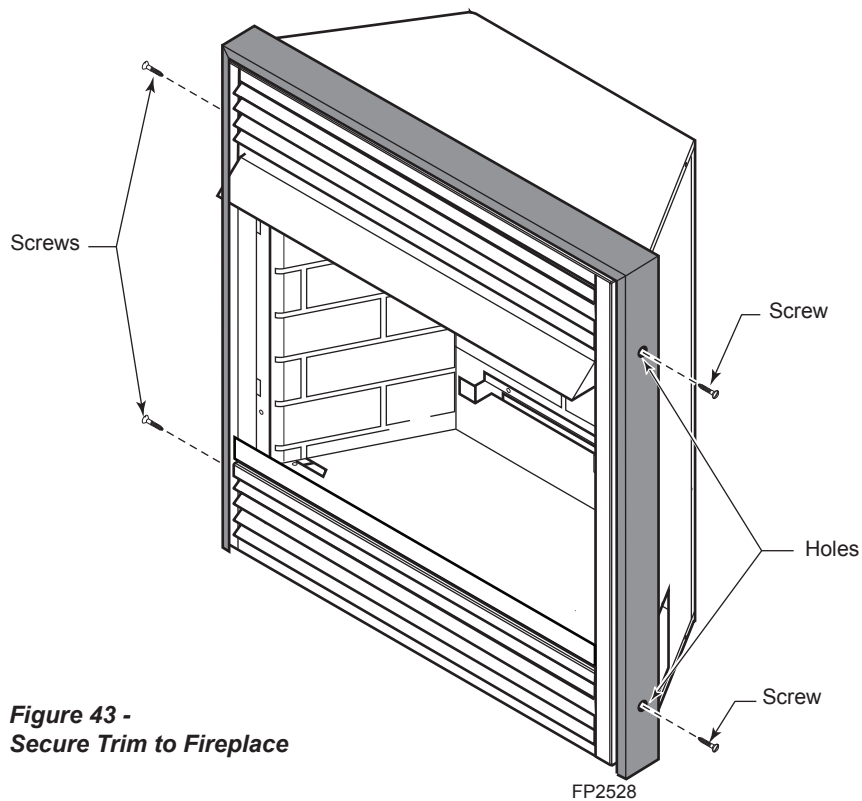

Figure 43 -
- Align holes in assembled trim with holes in side of fireplace. Using a Phillips screwdriver, attach trim with four (4) screws provided — two for each side of fireplace. Tighten snugly. *Figure 43*